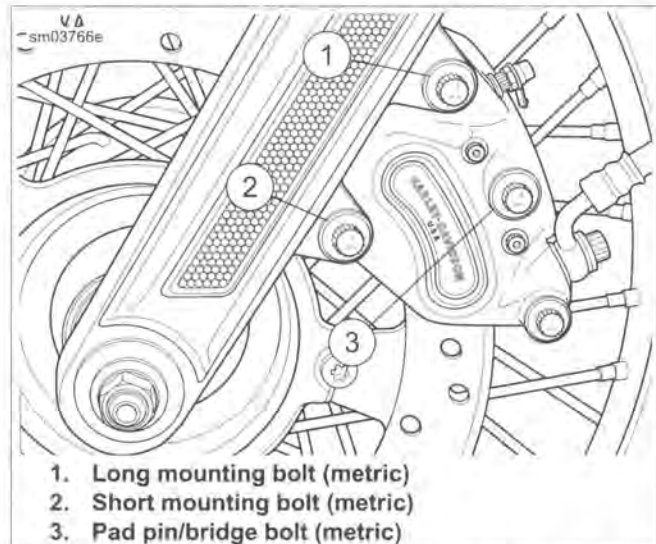
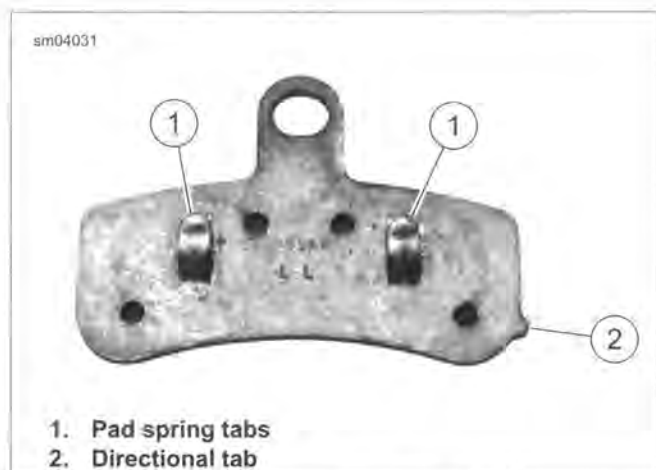

Figure 1-33. Front Brake Caliper (Left Side Shown)
Figure 1-34. Front Brake Pad
- See Figure 1-33. Loosen, but do not remove pad pin/bridge bolt (3) (metric).
- See Figure 1-34. Verify the pad spring tabs (1) on brake pad engage the pad springs in the pistons.
- If the directional tab (2) does not face down when caliper is installed, brake noise can develop.
7. Install **new** pads into caliper. The directional tab (2) must face down when caliper is installed.
- a. See Figure 1-33. Place caliper over brake disc with bleeder screw facing upward.
- b. Loosely install long mounting bolt (1) (metric) into upper hole on fork leg.
- c. Install short mounting bolt (2) (metric) into lower hole on fork leg. Tighten to 28-38 ft-lbs (38.0-51.5 Nm).
- e. Final tighten center pad pin/bridge bolt (3) to 15-16 ft-lbs (20.3-22.6 Nm).